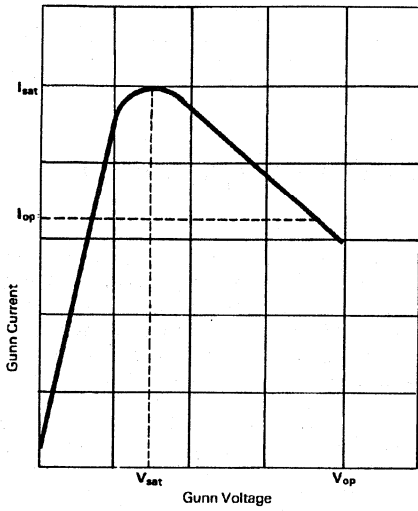

Fig.4 DC Gunn Characteristic
7. The power supply must be capable of supplying the saturation current as indicated in Fig. 4. A value of 1.5 times the operating current as a maximum power supply rating should give an adequate margin.